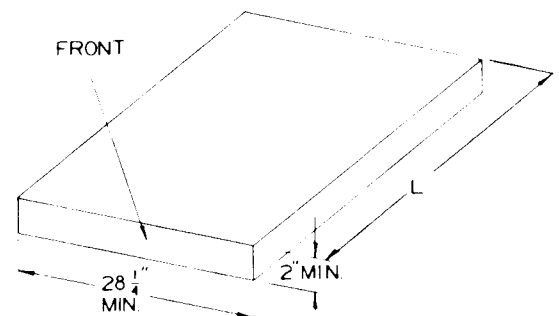

FIGURE 1
A boiler foundation is recommended where the boiler room floor is not level or where the boiler room floor cannot support the weight of the boiler. Locate the boiler foundation to provide proper clearances for installation of the piping, burner, and internal water heater(s). Allow a minimum clearance of 22" from the back of the boiler for breeching erection. Allow 18" clearance to the left side for cleaning and for tankless heaters. Allow 26" clearance to the left side if storage heaters are used. A level concrete pad or curb foundation is suggested of the size shown in the table and FIGURE 1. The height of the boiler foundation should be at least 2".
- b. Locate the back section on the boiler foundation shown in FIGURE 1. Screw a piece of 3" diameter pipe at least 22" long into the 3" return tapping in the back section. Block under the 3" pipe to hold the back section upright without additional support. These sections are top-heavy and will not stand individually without support. Make sure that the section remains plumb. The 3" diameter piece of pipe can be removed after several sections have been erected.